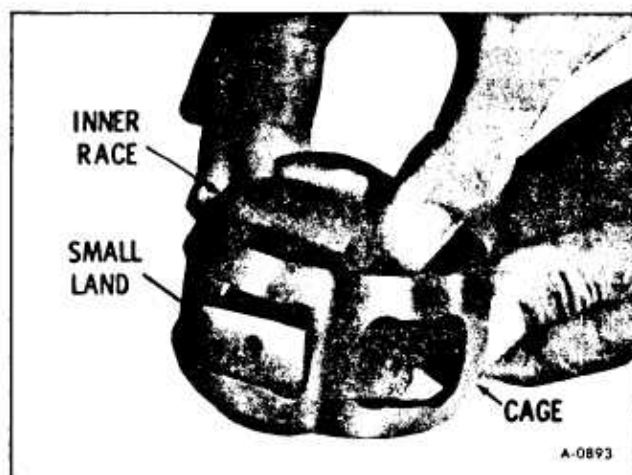

Figure 12—Removing or Installing Inner Race from Cage
in cage. Move short land through cage and turn inner race up and out of cage. (figure 12)
1. Insert short land of inner race through bore of cage and pivot to install in cage. (figure 12)